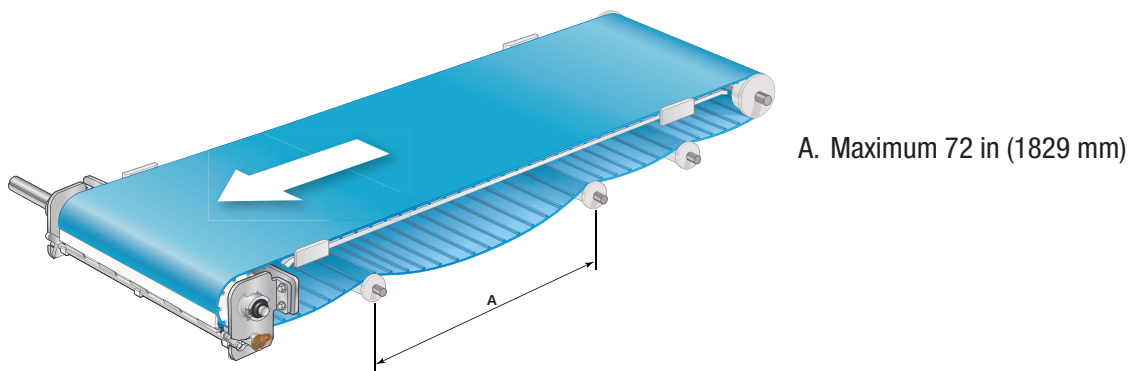

Figure 32
- Design supports with a maximum 72 in (1829 mm) distance along the conveyor length for most applications (Figure 32, A).
- At the returnway, mount belt containment blocks or flanged rollers near the idle shaft (Figure 32).